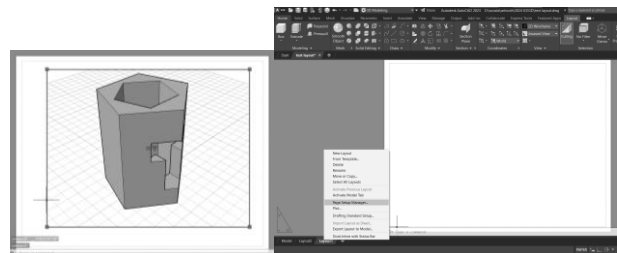

Figure 7 Layout 1 preparation
- **Step 1:** The rectangle with the modeled object is erased from Layout 1 and then the “Page Setup Manager” command is selected by right click of the mouse, like in Figure 7.